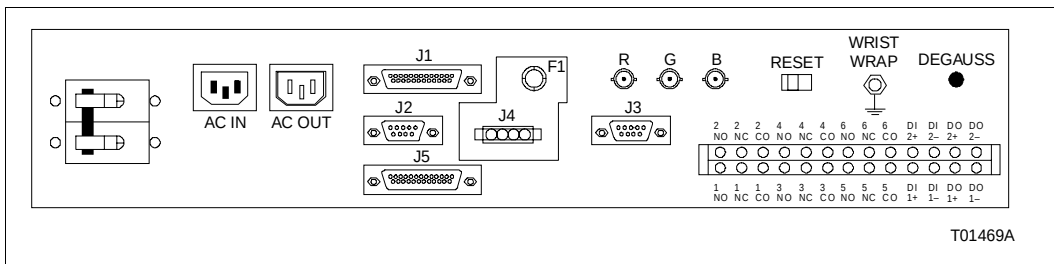

Figure PR5-1. Table Top Model AC Power Wiring
- ☐ 2. The table top model has an IEC style connector on the rear of the keyboard interface assembly. Connect the AC power to the AC IN connector. Figure PR5-1 shows the location of the AC IN connector.